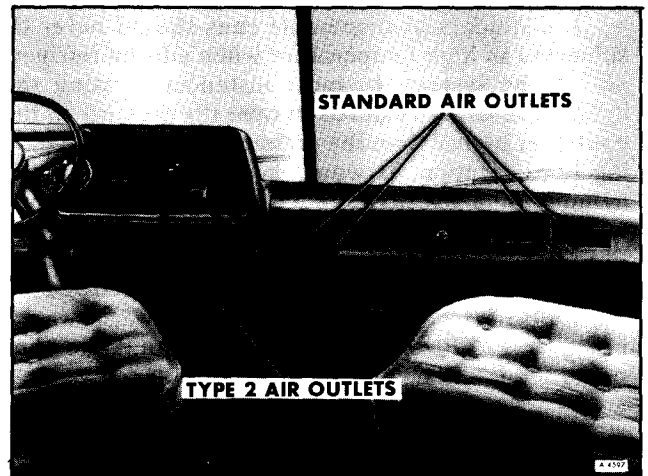

Figure 25—Location of Additional Air Conditioning Outlets
- **TYPE 2 "RECIRC", "COLD", "HOT"** (figure 25) — The Type 2 lever differs in function, though not in appearance from the Type 1 lever. The Type 2 system is identified by additional air outlets, located below the instrument panel (as shown). With the lever in the "RECIRC" position, the additional air outlets are activated to provide maximum cooling. 100% outside air is used exclusively, regardless